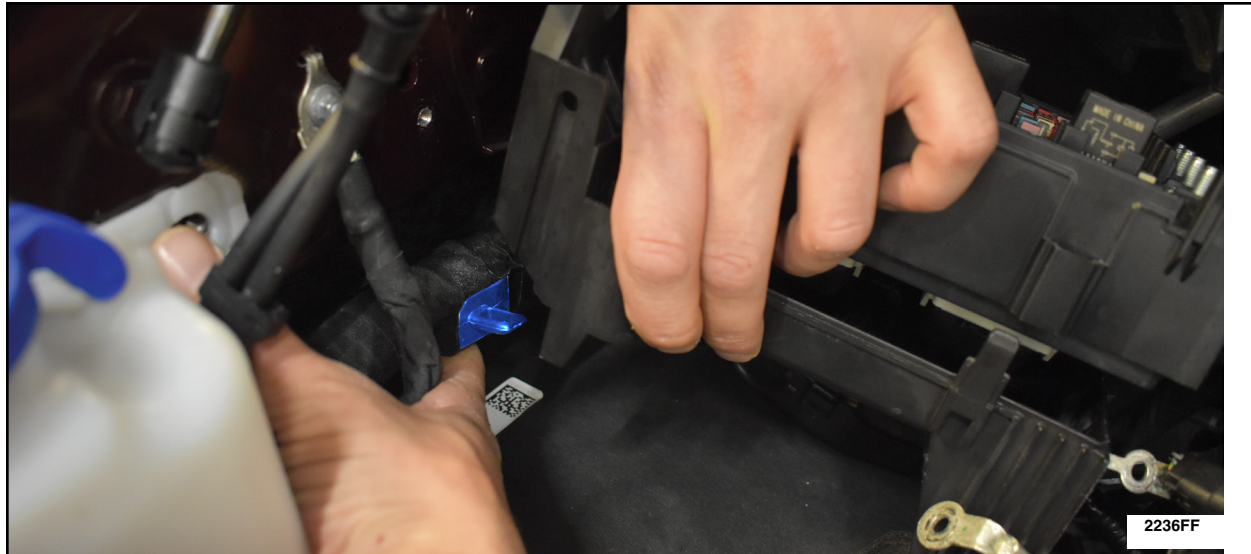

FIGURE 11
12. Release the 2 harness retainers from underneath the lower BJB. See Figure 11.